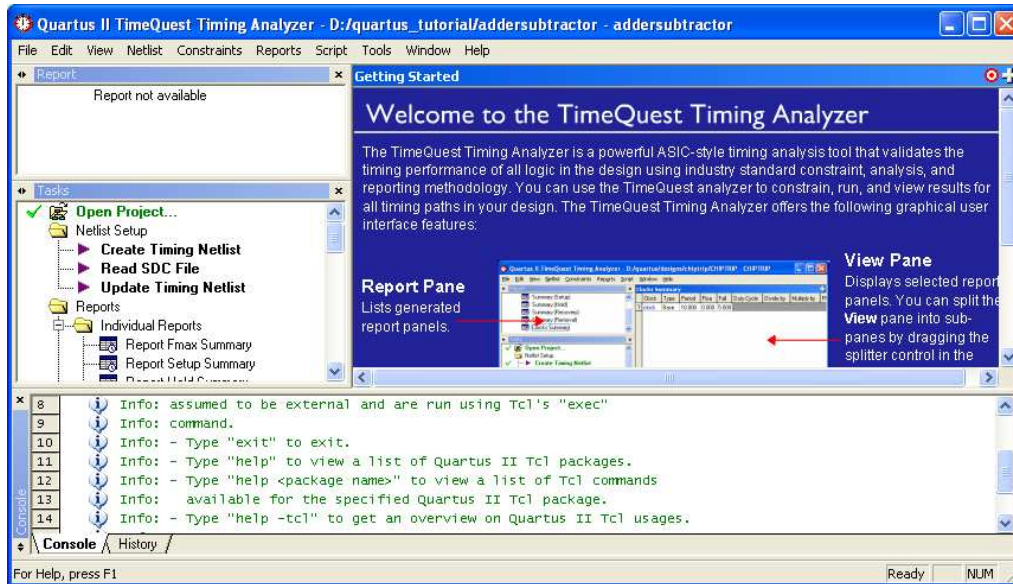
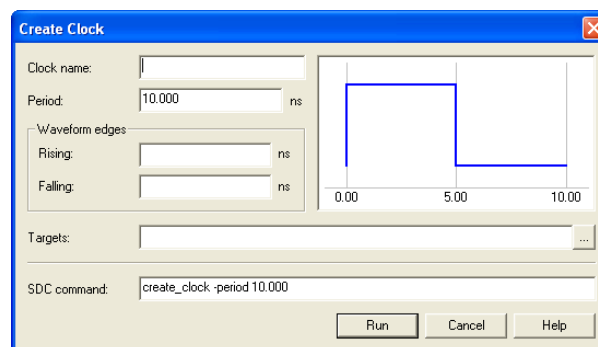
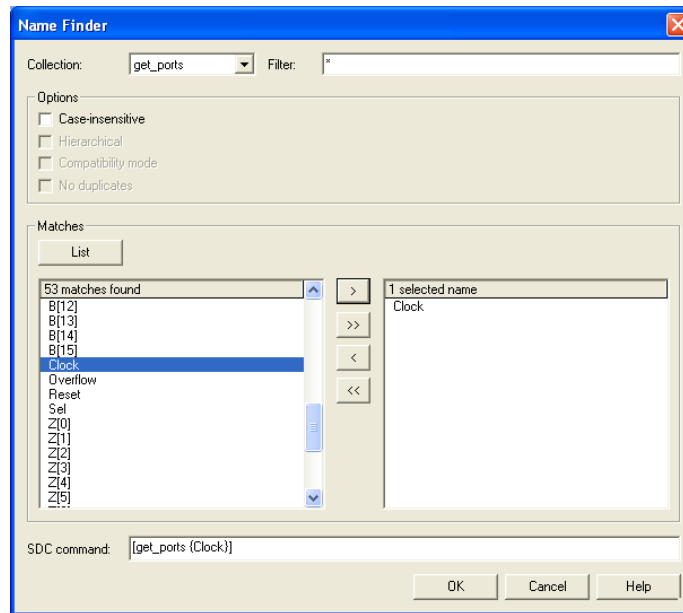
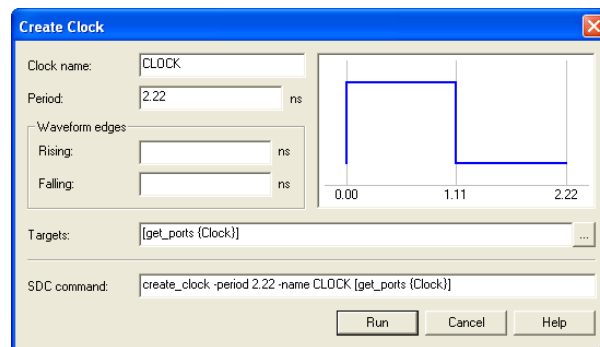

Figure 30: TimeQuest Timing Analyzer.
Figure 31: Create clock constraints.
Figure 32: Choose target clock.
Figure 33: Complete clock constraint.
1. Open TimeQuest Timing Analyzer by selecting Tools > TimeQuest Timing Analyzer, or by clicking the icon . Figure 30 shows the interface of TimeQuest Timing Analyzer. It is a very powerful tool for the user to create, manage, and analyze timing constraints, and to quickly perform timing verification for their design. The compilation in Section 4 produced the f_{max} of 440.92 MHz, which translates to a minimum *period* of 2.268ns . Suppose that we need a circuit that can operate at a clock frequency of 450 MHz, we can use the TimeQuest Timing Analyzer tool to create a new SDC (Synopsys Design Constraints) file containing the clock constraint.
Double click Create Timing Netlist in the Tasks pane to generate the timing netlist from database created after compilation. Then select Constraints > Create Clock... to reach the dialog box in Figure 31. Specify a name for the clock you want to constrain, this name can be used to refer to this clock when creating other timing constraints. As we want the circuit to operate at a clock frequency of 450 MHz, set the period to 2.22 ns in the Period: box. To specify the actual clock this constraint is applied to, click on the Targets: ... button in Figure 31 to get the pop-up window in Figure 32.
Click on the list button to get a list of all the ports, select **Clock** and click on the > button to reach the display in Figure 32. This tells the TimeQuest Timing Analyzer to constrain **Clock** port to the period you have specified. Notice in a larger design with many ports, we can enter the name of the port in the box labeled **Filter:** to reduce the number of matches in our search. Click **OK** to return to the dialog box in Figure 33.
In the box labeled **SDC command:** at the bottom of the dialog box in Figure 33, we can see the actual command that would be written into the SDC file. It creates a simple clock named **CLOCK** with 2.22 ns period and associated the constraint with the port **Clock**. Click **Run** to return to the window in Figure 30. Select **Constraints > write SDC File** and save the file as **addersubtractor.sdc**. Close the TimeQuest Timing Analyzer window to return to Quartus® II.